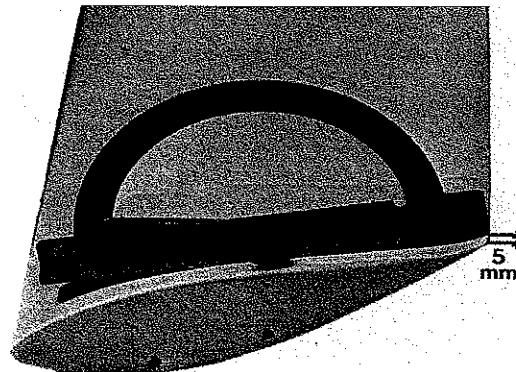

Fig.3: Inclinometer
- Goniometric Level (inclinometer, Fig. 3) required setting the blade pitch to the proper angle for the desired performance in accordance with the procedure described in section 2.4. The accuracy of the inclinometer must be at least 0.5°.
- Place the inclinometer perpendicular to the blade axis, on the top of the blade, 5 mm from the tip as shown in Fig.3. If the inclinometer base is too short to have a correct position, insert a rigid steel bar between inclinometer and blade.